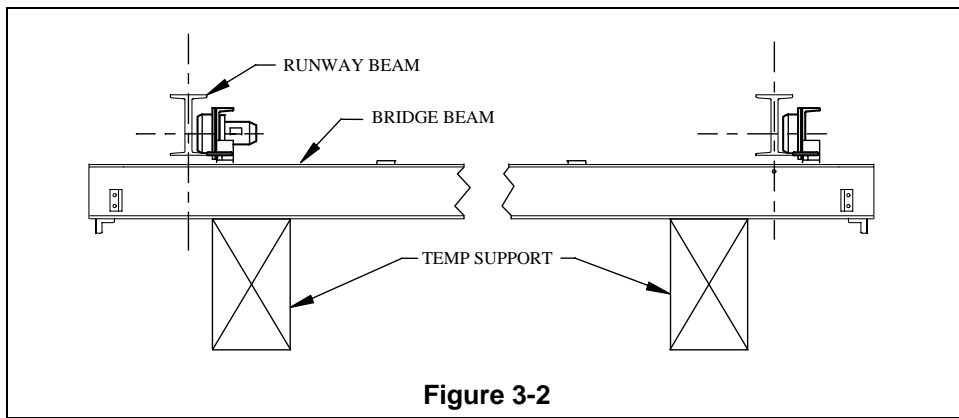

Figure 3-2
- b) Install frame A from one end truck onto the bridge beam, and secure it temporarily (see Figure 3-2). Note: if the end trucks were supplied as part of a Harrington crane system, complete with bridge beam, the end trucks are match-marked to the beam. In this case, ensure that end truck Frame A is installed to its match marked location on the bridge beam.
- c) Install frame B on the crane bridge in the same manner as step (b) above, and secure it temporarily (see Figure 3-2).
- 3.1.2 Install the bridge beam assembly on to the runways per Figure 3-2. Be sure to use a temporary support method, which ensures that the crane assembly stays safely in the position depicted in Figure 3-2.